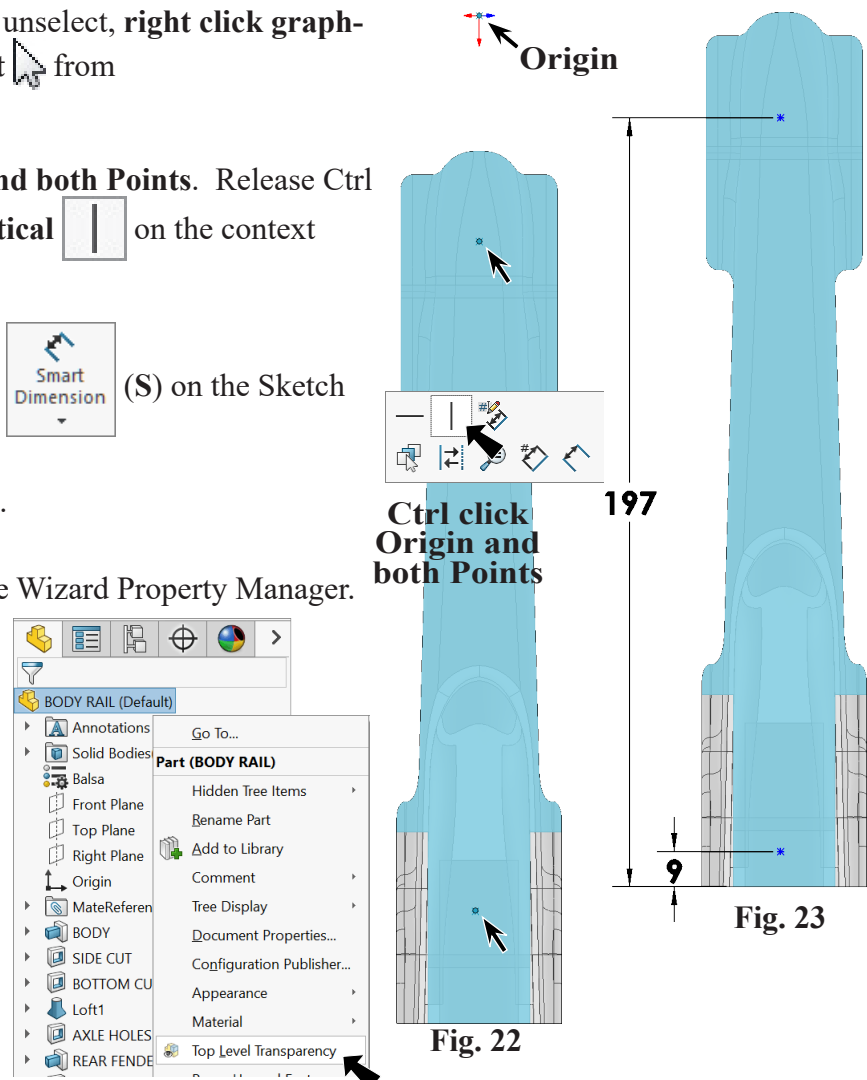

Fig. 24
Step 12. **Toggle off Transparency, Fig. 24.** To change transparency, **right click BODY RAIL** and click **Top Level Transparency.**